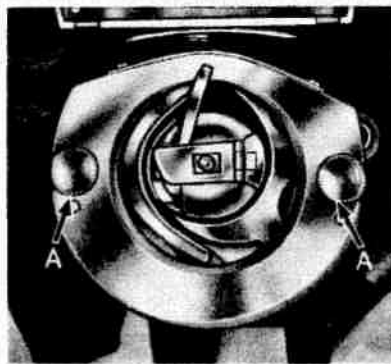

Fig. 10
2. Pull the KNOBS (A) on both side of shuttle race (Fig. 10 & 11) aside, then take out the outside ring and the shuttle body with your fingers.